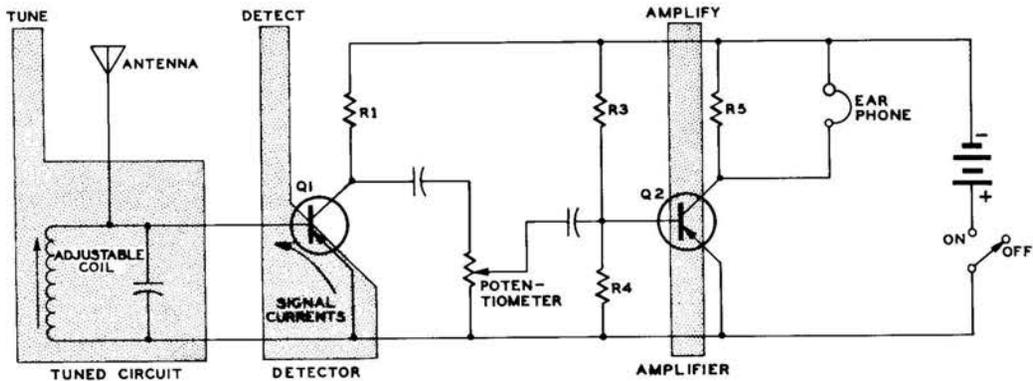

Figure 7H
Figure 7H shows the circuit of a two-transistor radio. The modulated RF signals are received by the antenna and connected to the tuned circuit. The small arrow alongside the coil means that the electrical size of this coil is adjustable.
8. Transistor Q1 in Figure 7H is actually turned on and off by the input signal. (True, False)